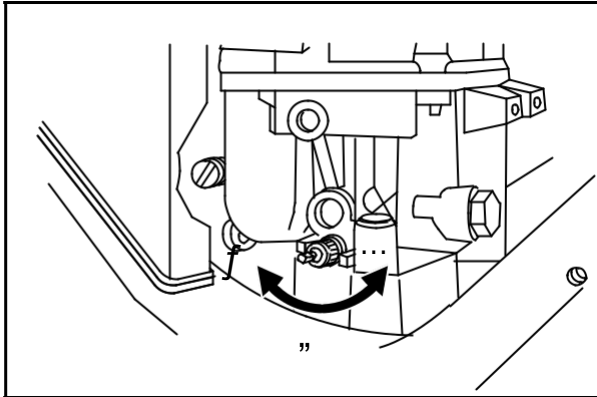

Fig. 16
Turn idle mixture screw slowly **CLOCKWISE** (3) until engine speed just starts to slow (**LEAN** mixture), **Fig. 16**.